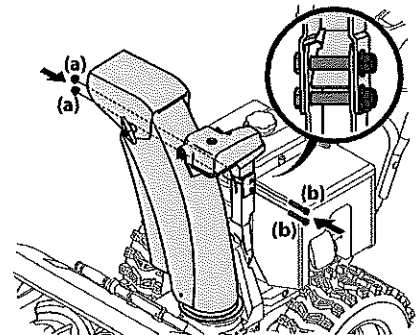

Figure 2-22
2. Place chute assembly onto chute base and chute control head onto chute support bracket. See Figure 2-22.
3. Secure chute control head to chute support bracket with lock nuts (a) and hex screws (b) removed in Step 1. See Figure 2-22.